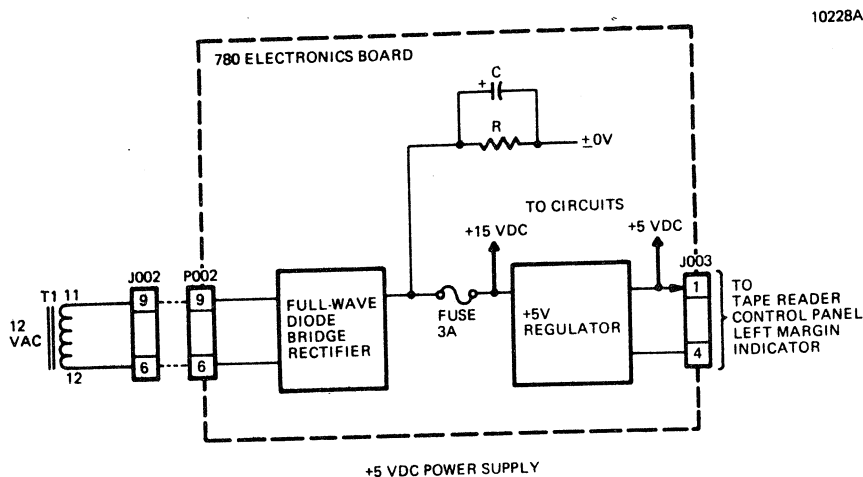

FIGURE 2-8. +5 VDC POWER SUPPLY
2.9.1 +5 VDC Regulator (Figure 2-8)